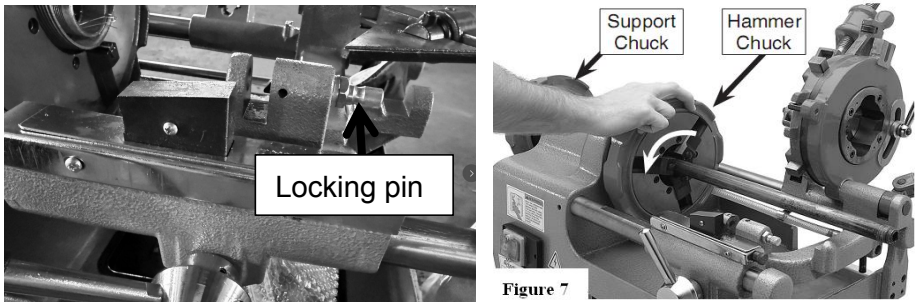

Figure 7. (Slamming hammer chuck to lock it on the pipe)
- C) Close the hammer chuck until it grips the pipe evenly with all jaws, then open it about a 1/4-1/2 turn, and slam it closed, as shown in Figure 7, Hold the pipe in right hand, and fix it by wheeling tight the fore and rear chucks, and then moderately tighten the hammer disk by hammering it counterclockwise.